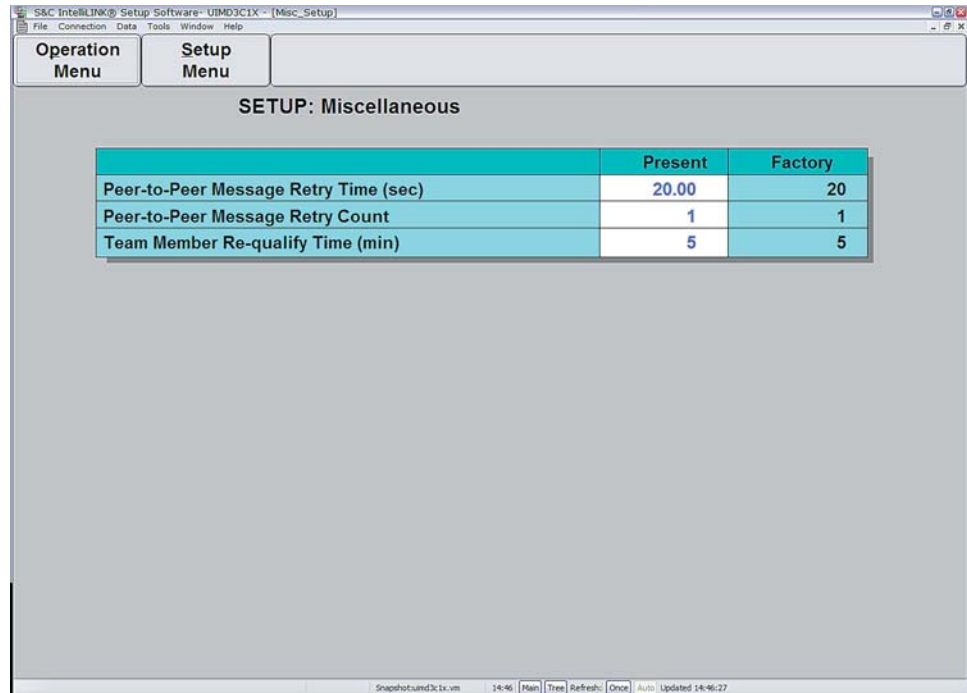

Figure 23. Miscellaneous Setup Screen for the Universal Interface Module.
24. From the **PRESENT CONDITIONS** screen click the **Team Menu** button, click the **Setup Menu** button, and click the **Misc Setup** button to display the **SETUP: Miscellaneous** screen (Figure 23). Enter the correct values for the Interface Module.